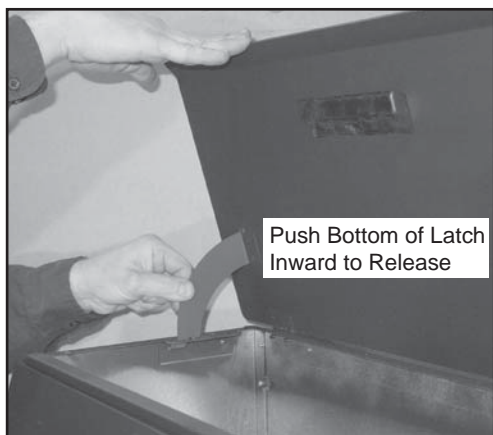

Figure 9.2
3. To close the hopper lid, while holding lid open with one hand, push the bottom of the latch inwards to release from locked position and then slowly close the hopper lid. **Figure 9.2.**